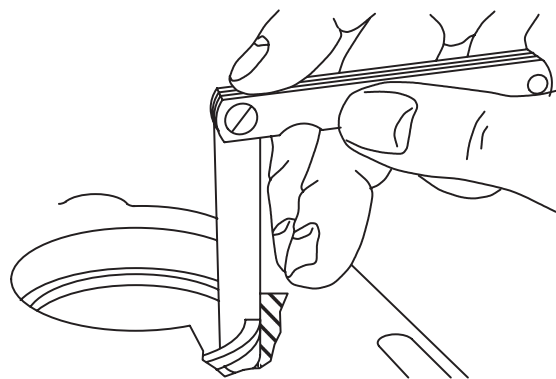

Fig. 4 – Checking Ring End Gap
2. Check ring end gap, Fig. 4.